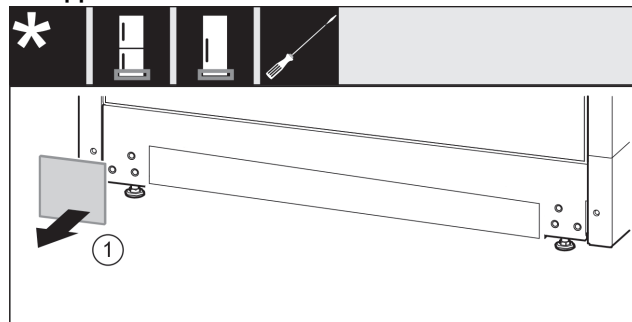

Fig. 35
- Remove the cover. Fig. 35 (1)